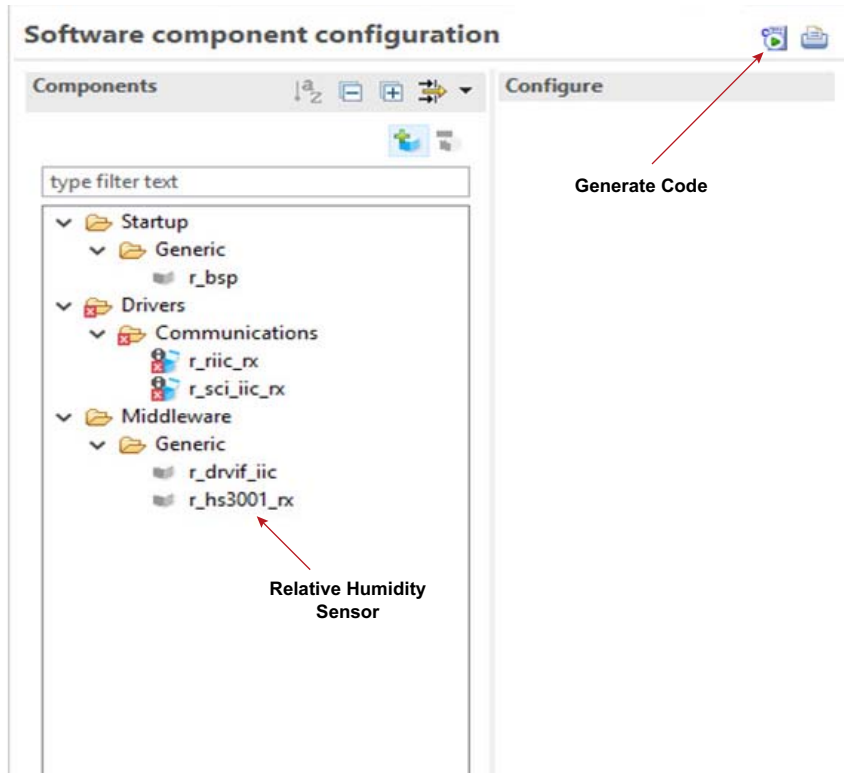

Figure 4. Component Configuration in Renesas e2 Studio
1. Navigate to the **Components** tab, open the Middleware/Generic folder, and select the desired sensor. For the case shown in Figure 4, select the `r_hs3001_rx`.